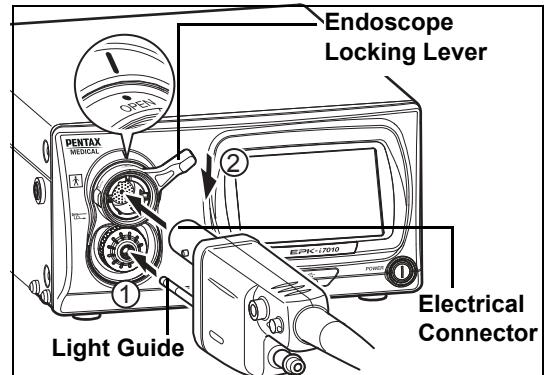

Figure 3.1
- 2 Insert the endoscope firmly into connector ① of the processor. Close the endoscope locking lever in the direction of ② until it clicks into position. (Refer to Figure 3.1.)**